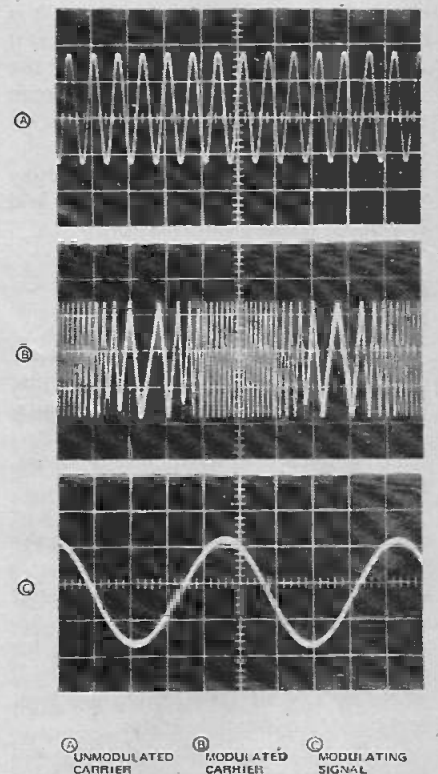

Fig. 9. In frequency modulation, the amplitude of the carrier is held constant, the information signal being used to vary the instantaneous frequency.
**Frequency modulation**... in this type of modulation the amplitude is held constant, and the instantaneous frequency varied instead. The carrier is the same as that for AM to begin with, but after modulation the combined signal has the appearance shown in Fig. 9. (This modulating form is usually known as FM). It is less prone to noise problems than AM but is more expensive to implement, so its use is more restricted than AM systems. No doubt you have heard of FM radio... the broadcasting system that uses frequency modulation to transmit the sound signals.